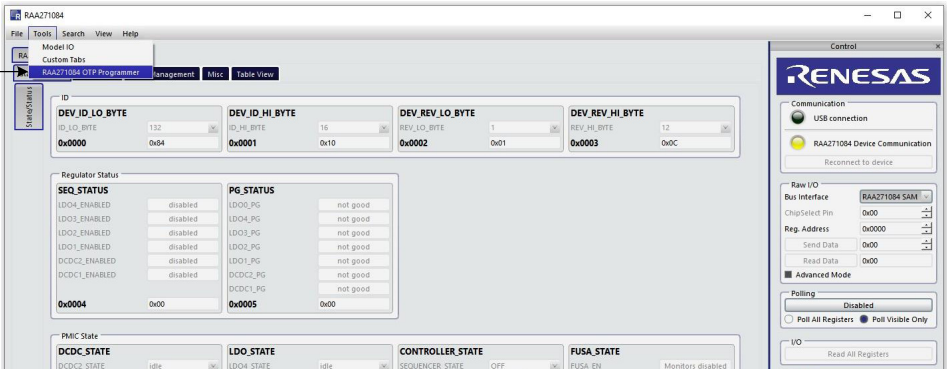

Figure 5. OTP Programming Sequence
- 3. Start the OTP programming widget located in the **Tools** dropdown menu (Figure 5).